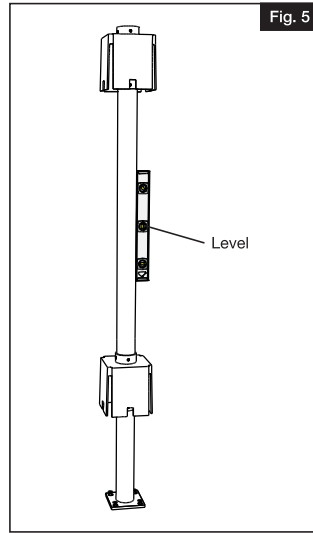

Fig. 5
- Using a level, check to make sure the structural post mount is plumb and level (Fig. 5).